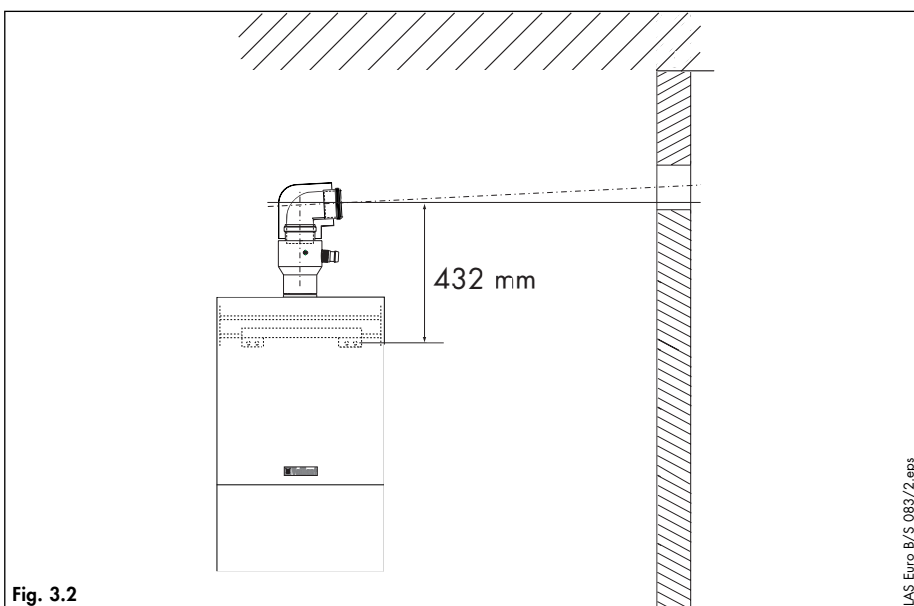

Fig. 3.2
- Identify the correct measurement as shown in fig. 3.2, carefully measure the distance from the bottom centre of the boiler hanging bracket (centreline of the two lower hanging bracket fixing holes). This gives the position of the centreline of the 125 mm flue elbow and adaptor when installed.